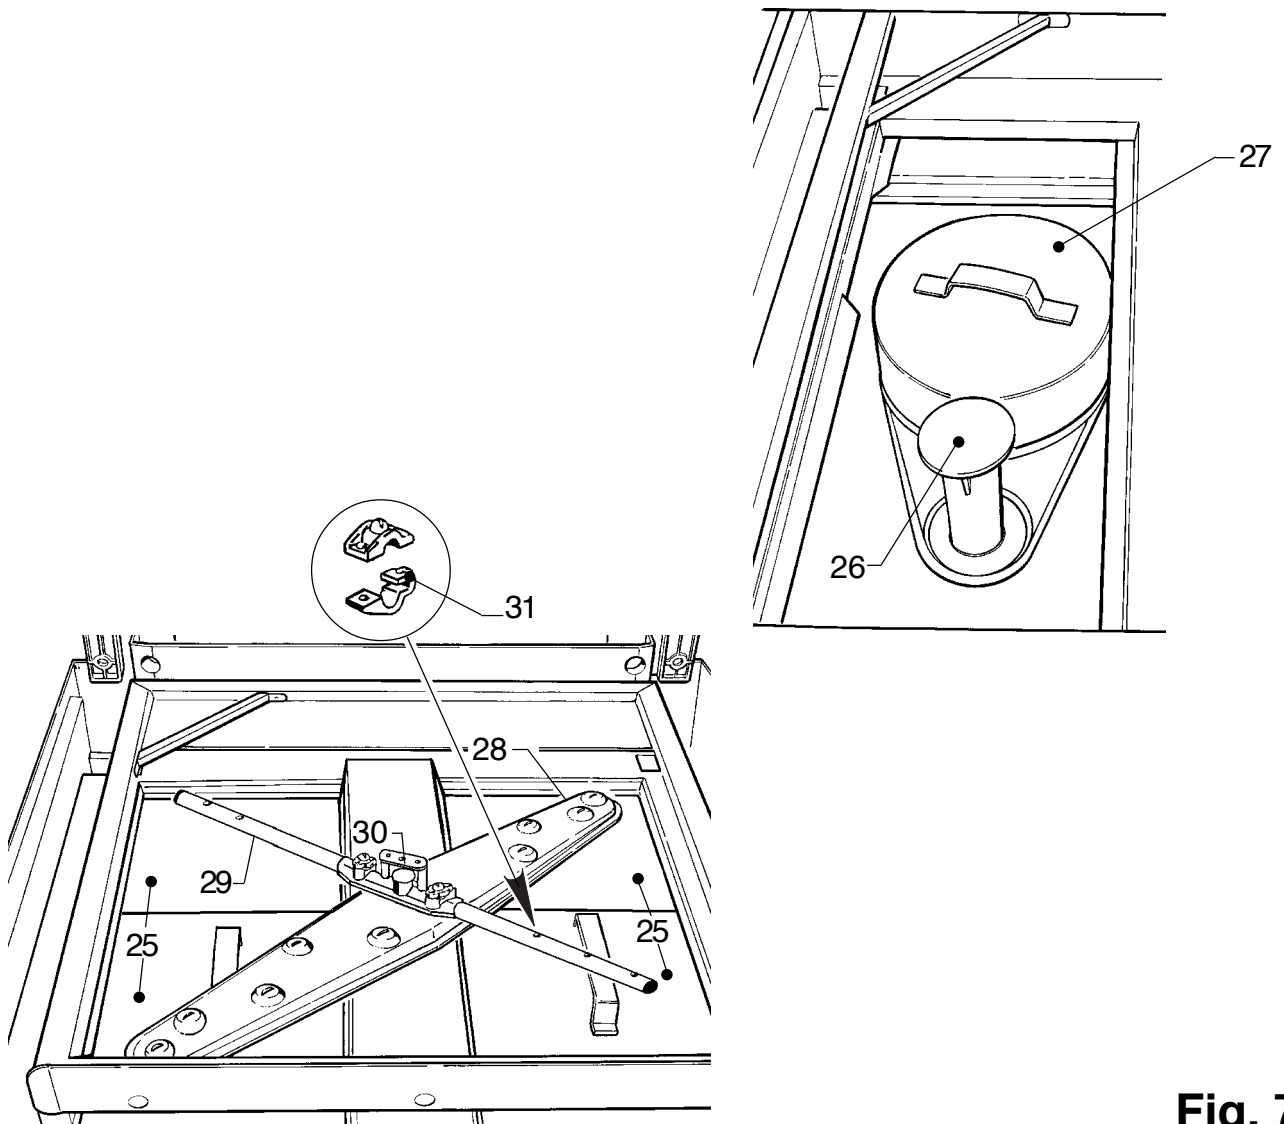

Fig. 7
2.2. CLEANING (Fig. 7)
2.2.b Daily cleaning (Fig. 7)
2.3. PREVENTION MAINTENANCE (Fig. 7)
2.3.a Checking and cleaning the spray arms and nozzles (Fig. 7)